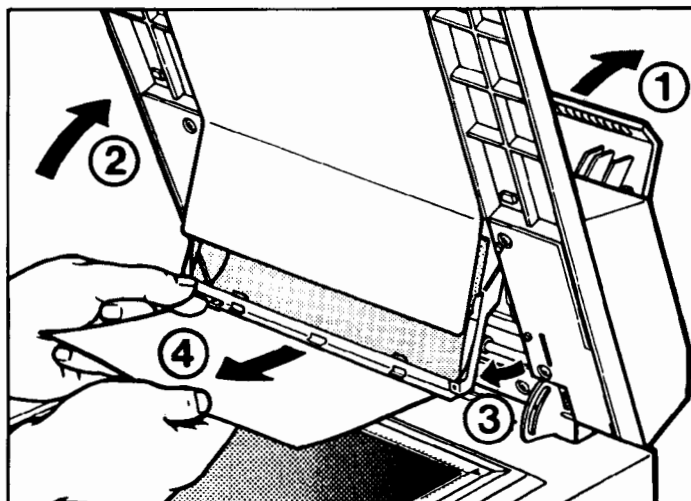

Figure D-11. Removing a Paper Jam Inside the ADF
- If the jam occurs inside the ADF, raise the ADF cover. Lift up the ADF and open the feeder guide by lifting the metal frame. Remove the jammed paper. Lower the metal frame and close the cover securely. See figure D-11.